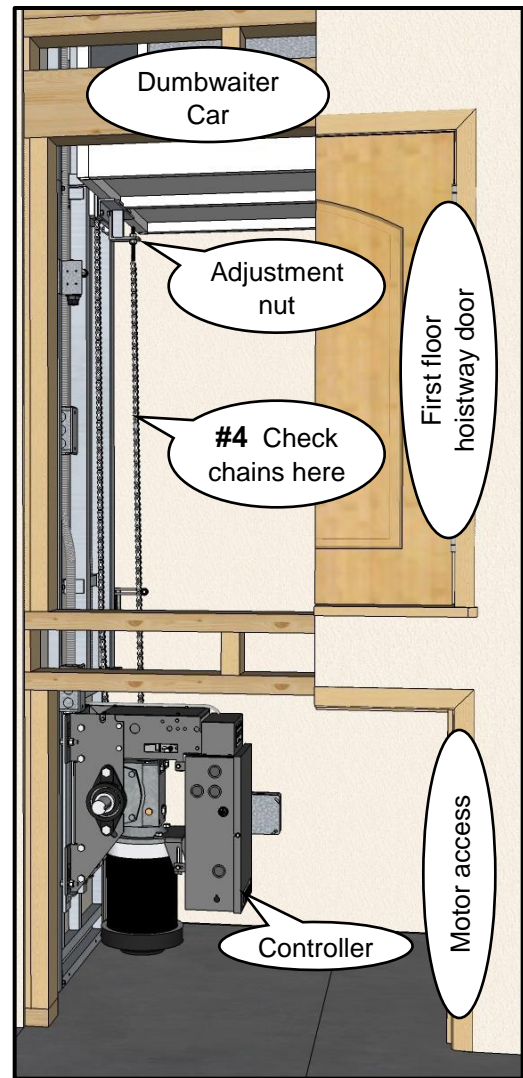

Figure 7
- 1 From the first floor, open the hoistway door and motor access panel / door. (see Figure 7)
- 2 Through the motor access panel / door open the controller and use the “Up” contactor to move the dumbwaiter car up until the bottom of the car is approximately 6 feet above the floor. (see Figures 7, 9 & 10) (see Page 14 for Contactor Operation)
- 4 Verify that both the front and back chains are taught at chest height. (see Figure 7) If there is any slop in the chain continue on to the next step. If the chains are both taught go on to Step 6.